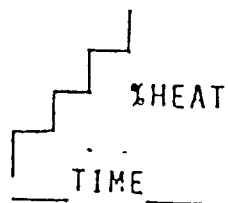

FIG. 1
- ◆ Upslope is defined as a stair step ladder, where HEAT% is incremented from an initial value, in small increments and over a specified period of time. (See figure 1)